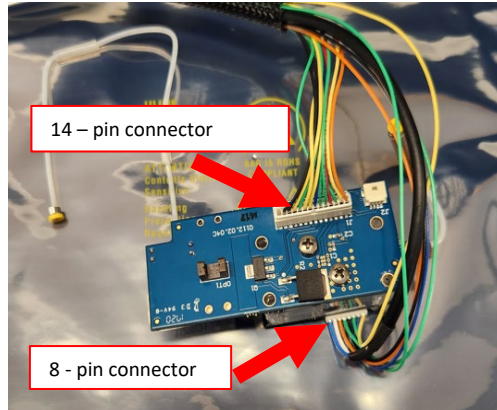

Figure 22
6.2. Install analog wire connectors into Reading Cell. Figure 22